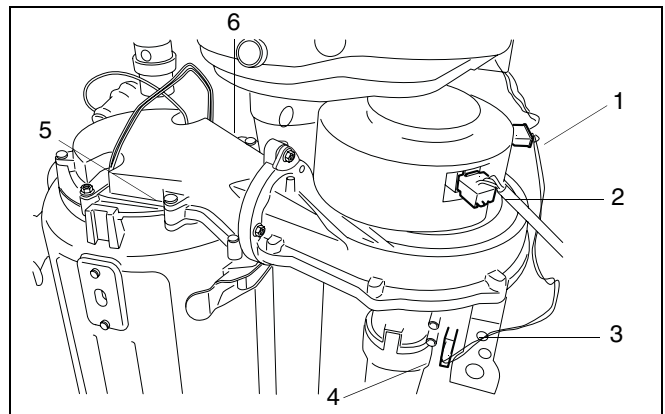

fig. 60 Remove connectors of the gas air unit
- Remove the connectors (fig. 60, item 1, 2 and 3) from the gas air unit.
- Remove the air silencer from the gas air unit (fig. 60, item 4).
- Then remove the connectors of the ionisation electrode (fig. 60, item 6) and the glow ignitor (fig. 60, item 5).